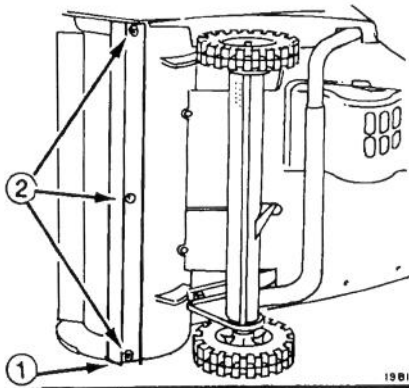

Fig. 7
2. Tip snowthrower on its side. Remove locknuts and carriage bolts holding scraper in place (Fig. 7). Remove scraper from housing.